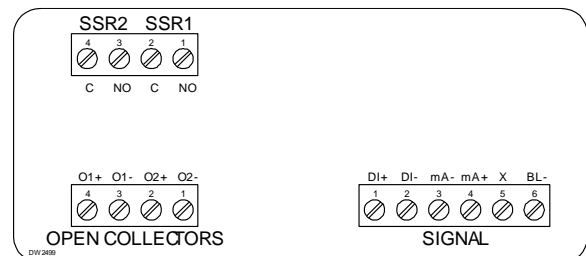
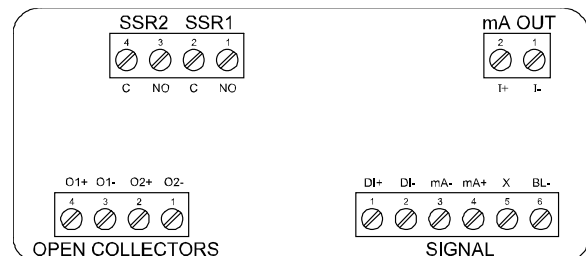

Figure 6. Connector Labeling for PD662#-L2N with 2-Solid State Relays
Figure 8. Connector Labeling for PD662#-L5N with 2 Solid State Relays & 4-20 mA Output
Relay connections are made to a four-terminal connector labeled SSR1 and SSR2 on *Figure 6*. *Connector Labeling for PD662#-L2N with 2-Solid State Relays* and *Figure 8. Connector Labeling for PD662#-L5N with 2-Solid State Relays & 4-20 mA Output* on page 19. Each relay's C terminal is common only to the normally open (NO) contact of the corresponding relay.